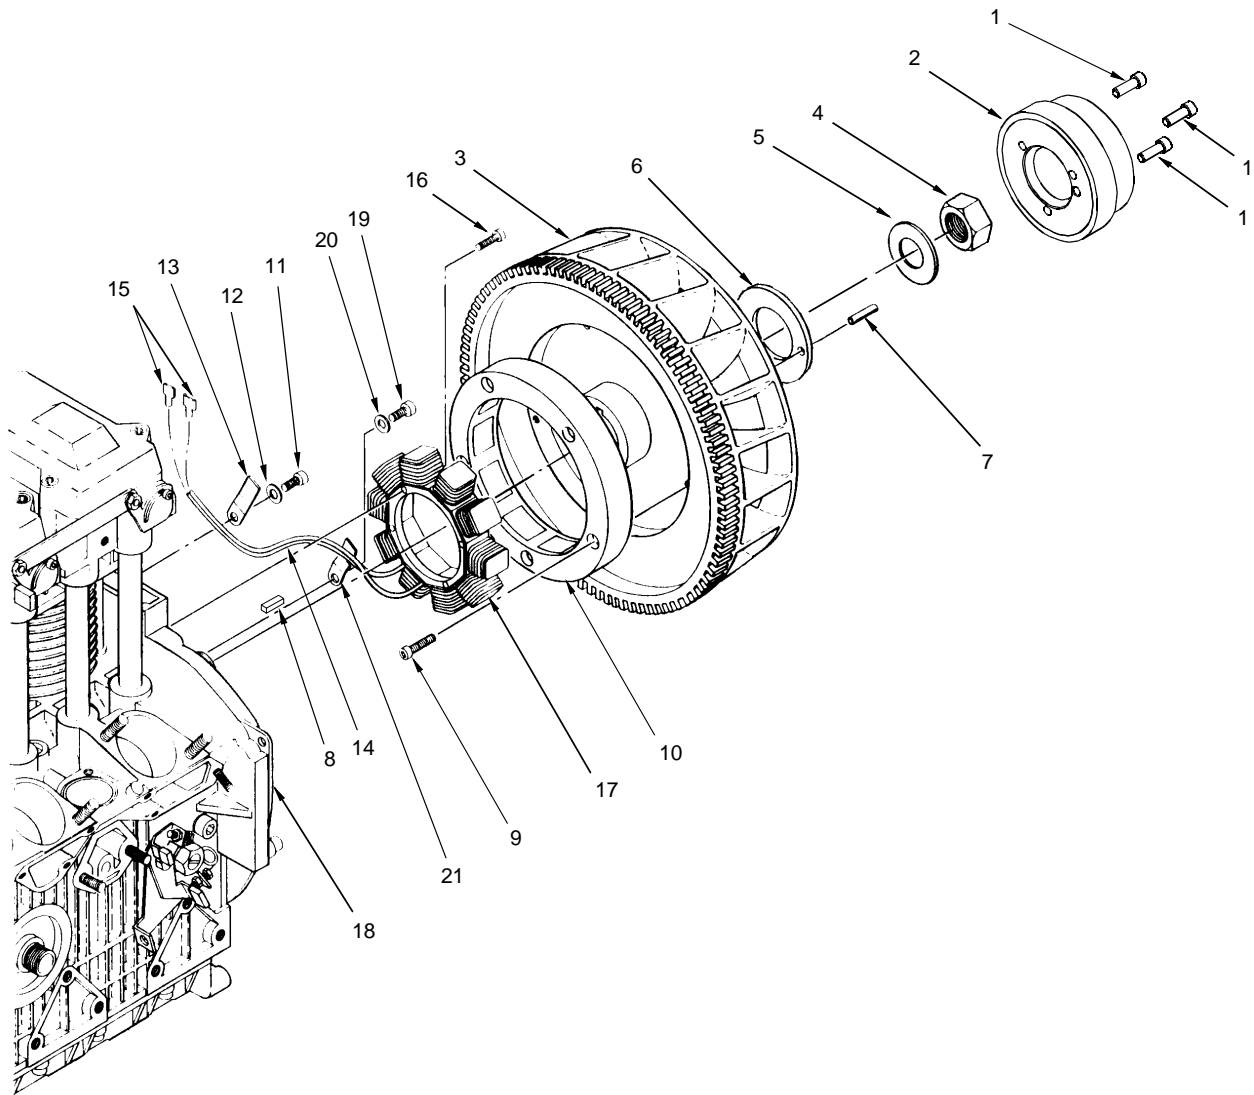

Figure 6. Flywheel and Alternator Removal
**REMOVE FLYWHEEL/ALTERNATOR ROTOR AND STATOR.** (Refer to figure 6.)**INITIAL SET-UP:****Tools:**